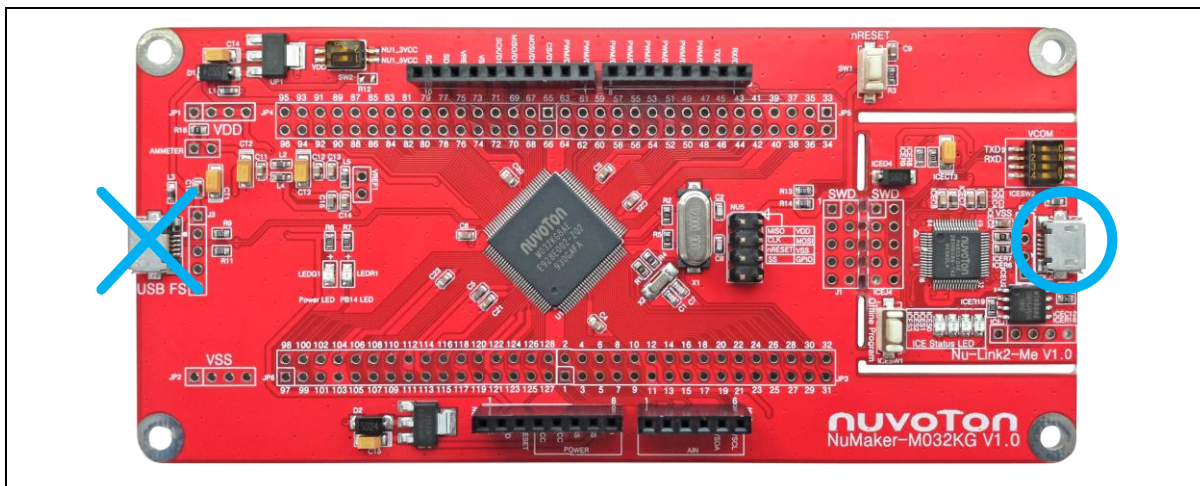

Figure 5-4 ICE USB Connector
2. Connect the ICE USB connector shown in Figure 5-4 to the PC USB port through a USB cable.